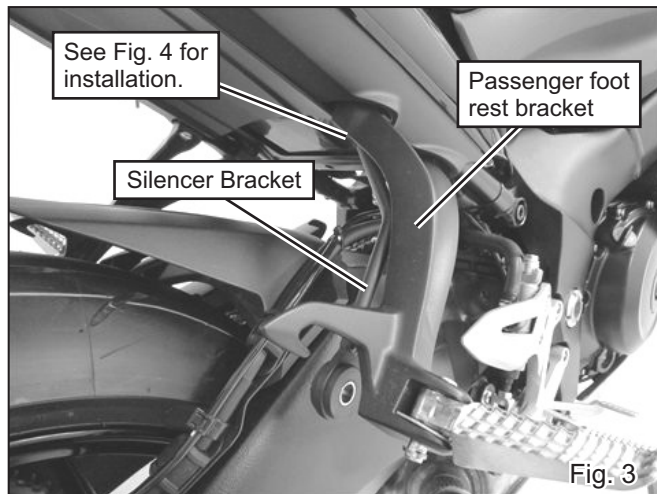

Fig. 3
- 5) Remove right side stock passenger foot rest bracket once, and mount Silencer Bracket and removed foot rest bracket together with 2 of Cap Bolt M8x30 (See Fig. 3 & 4). Tighten and torque Cap Bolt M8x30.